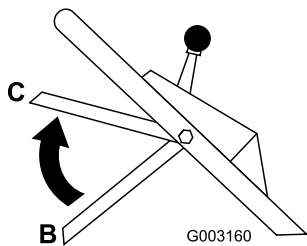

Figure 20
3. Bring the blade control bar up into the middle position about 5 inches (12.7 cm) below the handle cross bar (Position C in Figure 20).
4. Release the blade control bar (Position B in Figure 20).